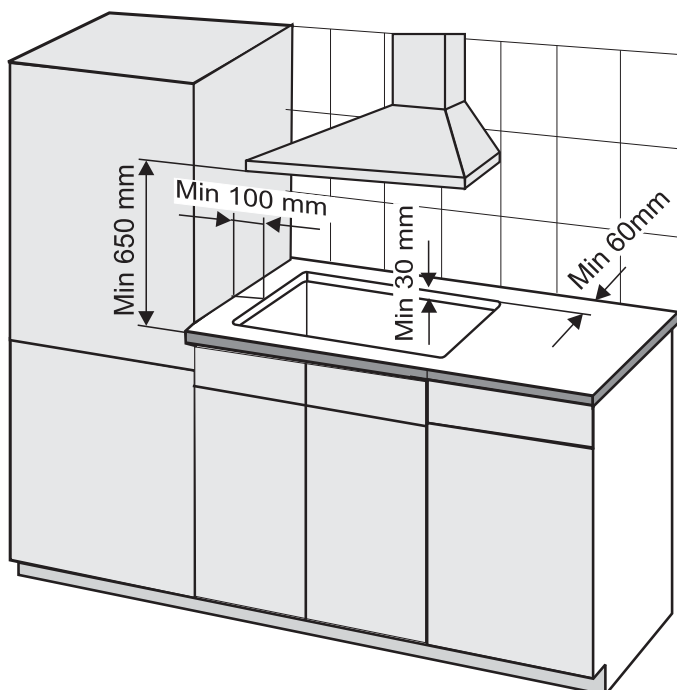

Fig. 5
- This hob may be installed on a worktop that is at least 30mm thick (Fig. 5). The worktop must be heat-resistant.